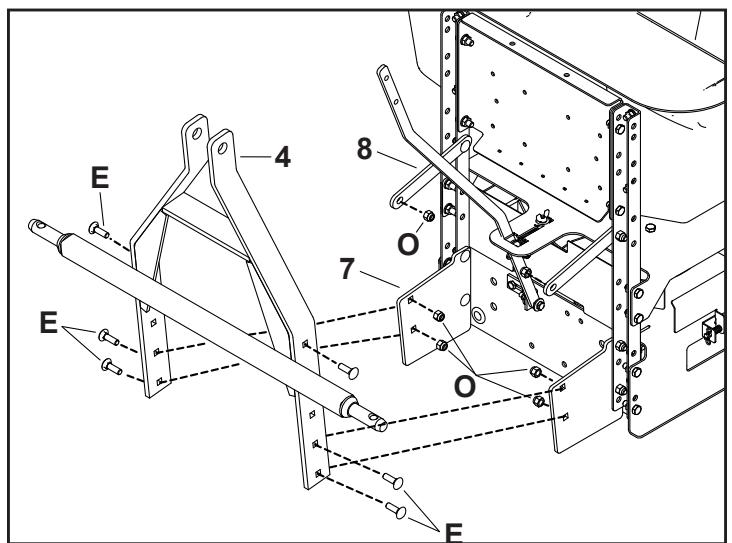

FIGURE 9
STEP 9: (SEE FIGURE 9)
- Place the 3 point main frame (4) over the outside of the lower 3 point brackets (7). The 3 point hitch braces (8) will go on the inside of the 3 point main frame (4). (Make sure the 3 point hitch tube is facing away from the spreader.)
- Install two 3/8" x 1-1/4" carriage bolts (E) on each side through the lower part of the 3 point main frame (4) and lower 3 point bracket (7).
- Secure with two 3/8" nylock nuts (O) on each side. Do not fully tighten hardware.
- Install a 3/8" x 1-1/4" carriage bolt (E) on each side through the upper part of the 3 point main frame (4) and the round hole on the 3 point hitch brace (8).
- Secure with a 3/8" nylock nuts (O) on each side. Tighten hardware.